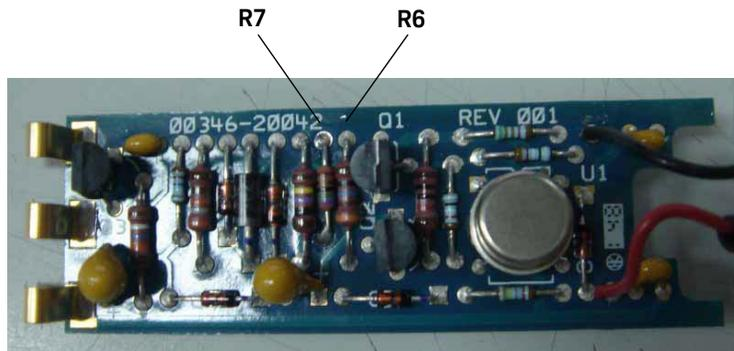

Figure 1 00346-60183
For the 346A and 346B, bias levels are determined by installing the appropriate resistor value for R7 on the printed circuit board (Figure 1). The appropriate resistor is supplied with the part.
- 9** Check the resistor installed in position R7 on the 00346-60183 printed circuit board; please refer to Figure 1. If it matches the resistor supplied, it is not necessary to install it in the printed circuit board.
- 10** Install the supplied resistor in R7 position (refer to Figure 1).
- 8** Check the resistor installed (if any) in position R7 on the 00346-60183 printed circuit board; refer to Figure 1. If it matches the resistor supplied, it is not necessary to install it in the printed circuit board.
- 9** Install the supplied resistor in R7 position (refer to Figure 1).